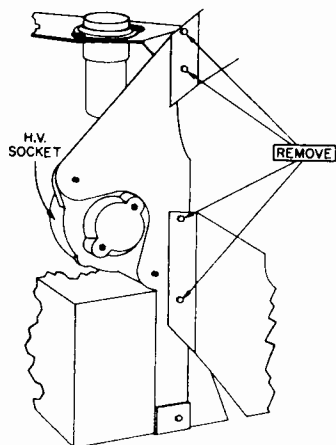

Figure 1 -
To provide easy access to the PC board, the CRT assembly can be partially disassembled (see Figures 1 and 2).
1. Remove the 4 screws shown in Figure 1.